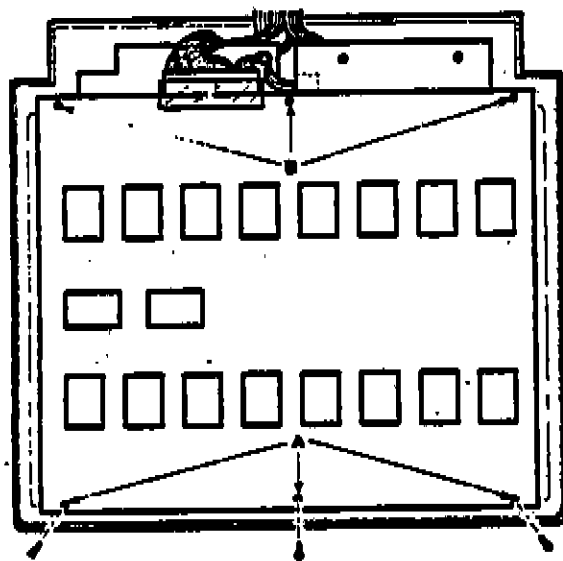

Figure 3-23. LCD Assembly Screws
5. Remove the three screws A securing the LCD assembly to the display front cover, and loosen three screws B, as shown in Figure 3-23.